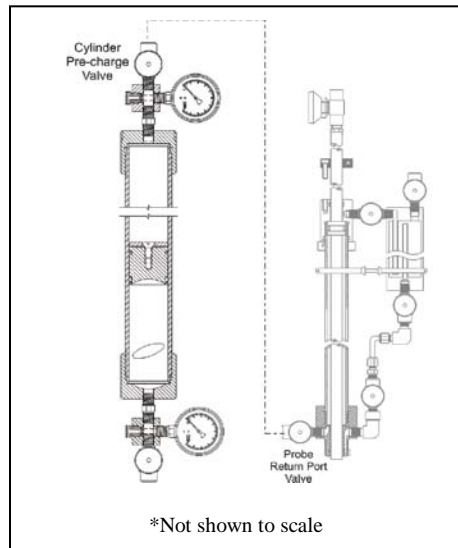

Figure 2
- c) Use small diameter stainless steel tubing to connect the cylinder's pre-charge valve to the valve on the return port of the probe (see Figure 2).